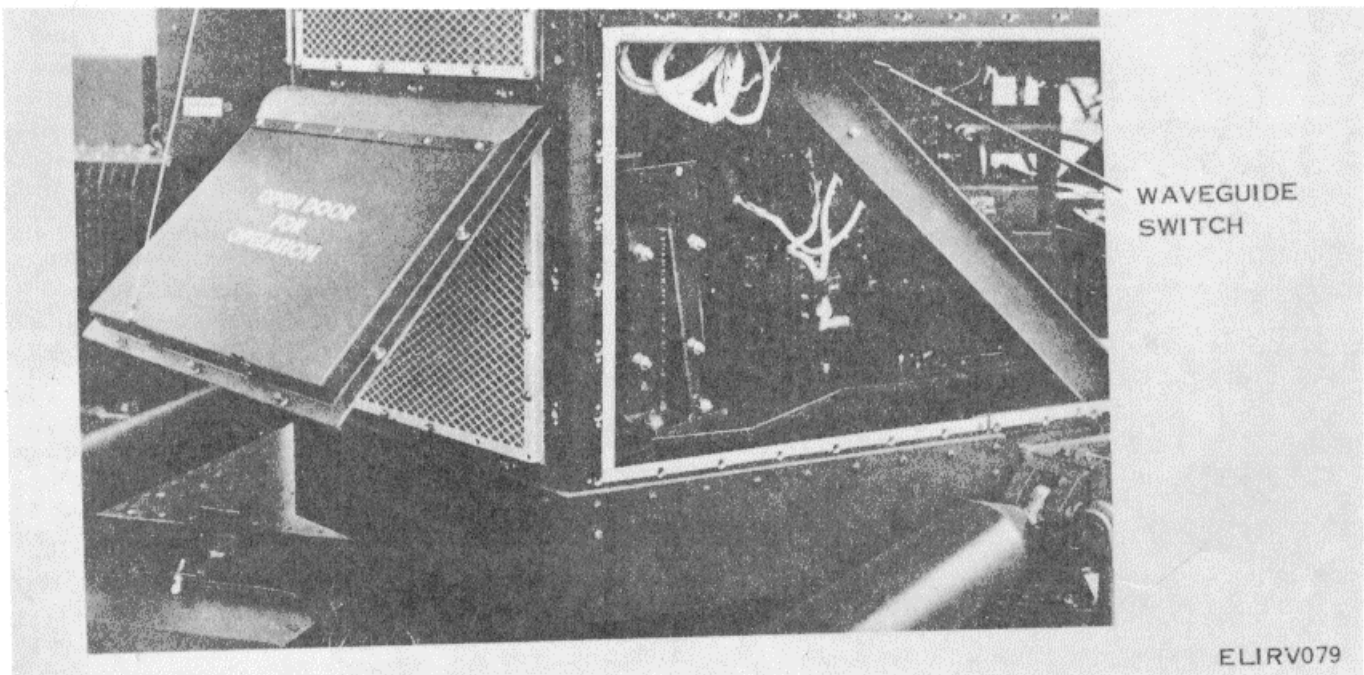

Figure 3-40. Waveguide dummy load switch location.
Pedestal mounted waveguide switch (fig. 3-40) is operable electrically by LPA panel assembly 2AIIA5 and remote control panel 1A2A36 (LPA or HPA ON LINE switches) and mechanically by rotating shaft mounted on the waveguide switch assembly.
- e. Set the WAVEGUIDE DUMMY LOAD switch (fig. 3-40) to the DUMMY LOAD position. The DUMMY LOAD indicator on the transmitter control panel should